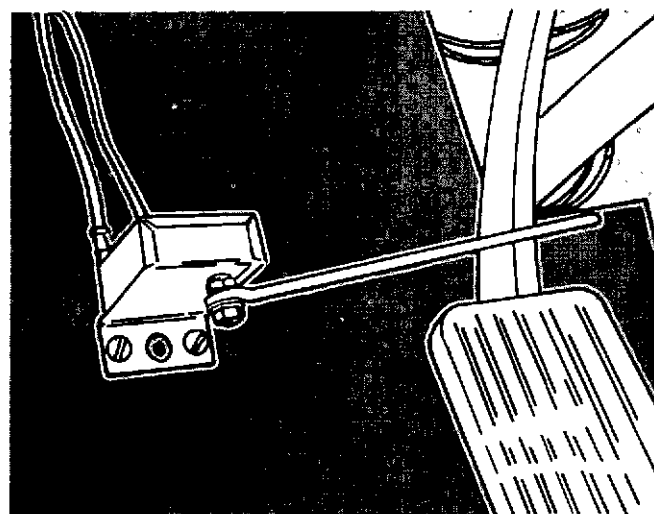

Fig. 20-12. The Clutch Switch Arm Against The Clutch Pedal Arm.
1. Install the clutch switch inside the vehicle cab. Use a location in the cab so that the actuating arm of the switch is against the clutch pedal arm, Fig. 20-12.